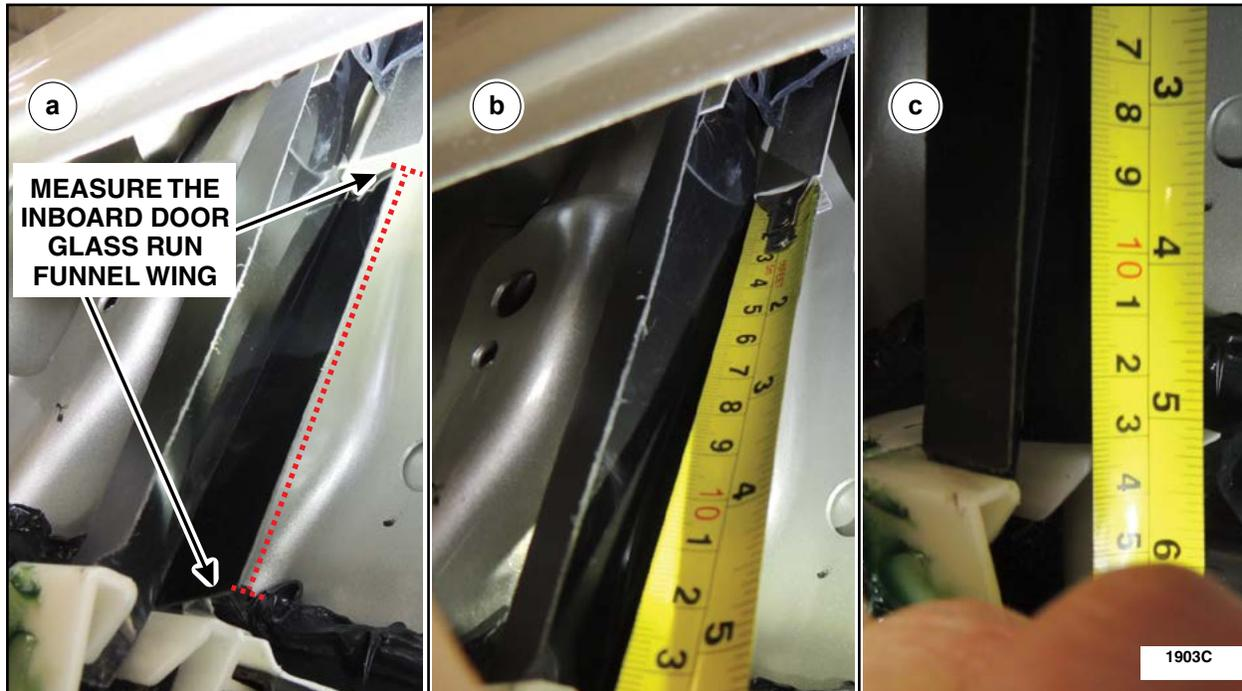

FIGURE 24
3. Measure the door glass run funnel wing for proper length (132mm). See Figure 24.
- c. Measure to the bottom of the inboard wing of the door glass run funnel. See Figure 24.